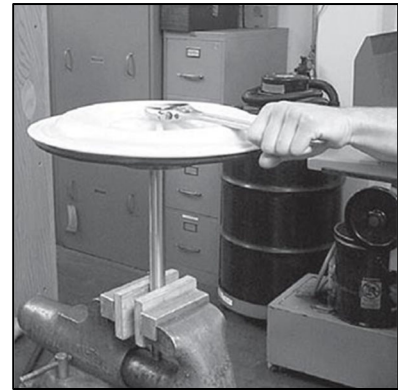

Figure 10b
- 2) The outer piston, diaphragm and inner piston separate from the shaft which remains connected to the opposite side diaphragm assembly (Figure 10b). Repeat disassembly instructions for the opposite liquid chamber. Inspect diaphragm assembly and shaft for signs of wear or chemical attack. Replace all worn parts with genuine Wilden parts for reliable performance. Rubber/TPE are not available.